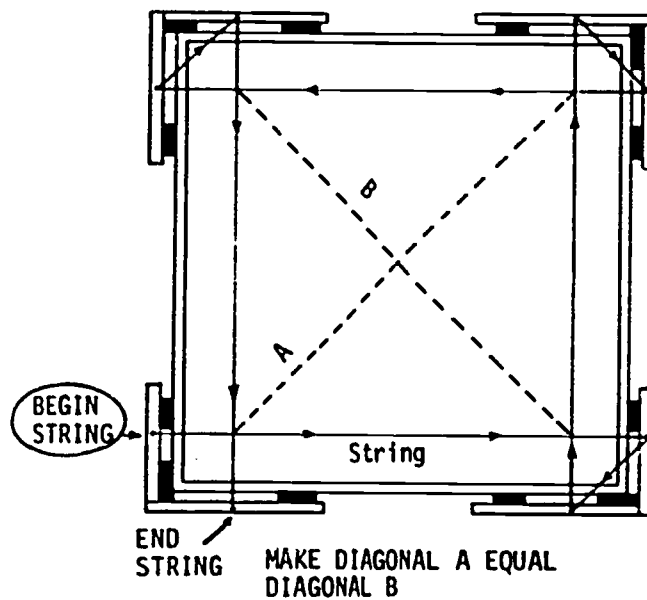

Fig. 32-3. Batter Board and String Location
1. Run strings from the nails on the batter boards to opposite nails. See Fig. 32-3.
2. Check for squareness by measuring the diagonals. See Fig. 32-3. Diagonal A should equal diagonal B.